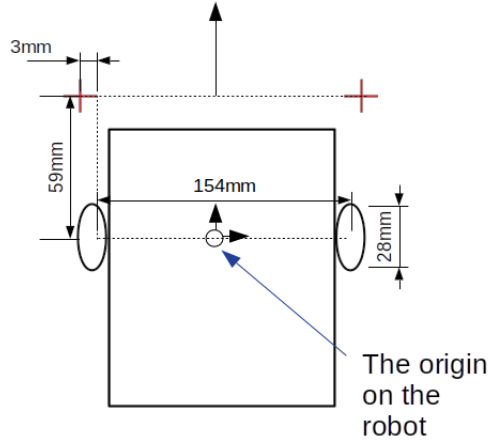

Figure 1.6: Dimensions of the robot
- The origin of the robot will lie on the mid point of the axial line connecting the wheels as seen on Figure 1.6